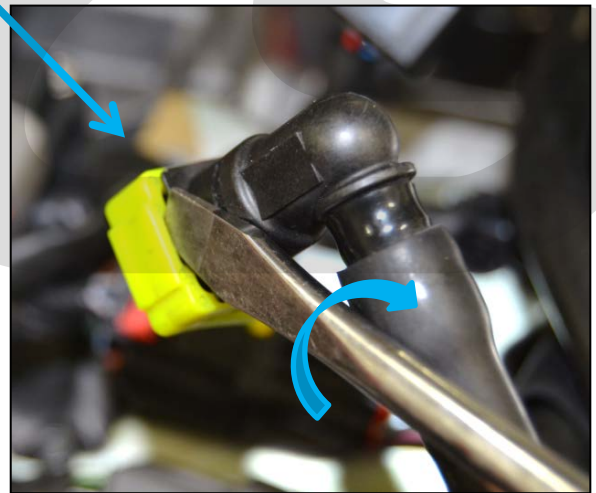

Figure 6b
b) Remove the fuel return line. Twist the flathead screwdriver to pop the clip loose. Shown in Figure 6b.